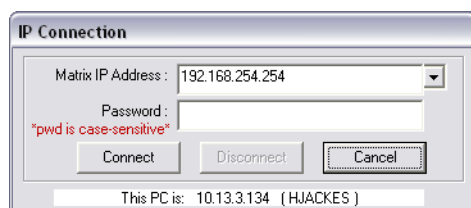

Figure 35. Address and Password Entry
3. If you selected **IP [LAN]** in step 2, the IP Connection dialog box opens (see figure 35).